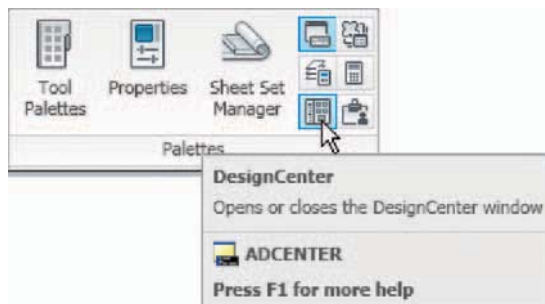
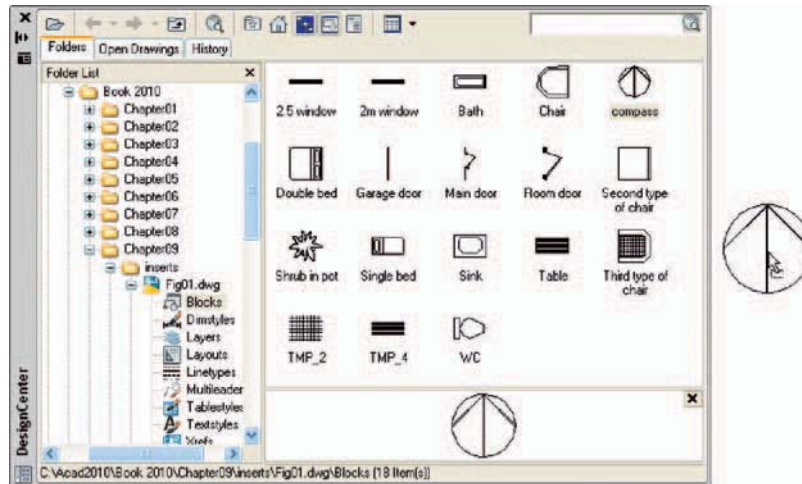

Fig. 9.9 Selecting **Design Center** from the **View/Palettes** panel
Fig. 9.10 The DesignCenter with the compass block *dragged* on screen
2. *Left-click* **Design Center** in the **View/Palettes** panel (Fig. 9.9) or press the **Ctrl + 2** keys. The **DesignCenter** palette appears on screen (Fig. 9.10).